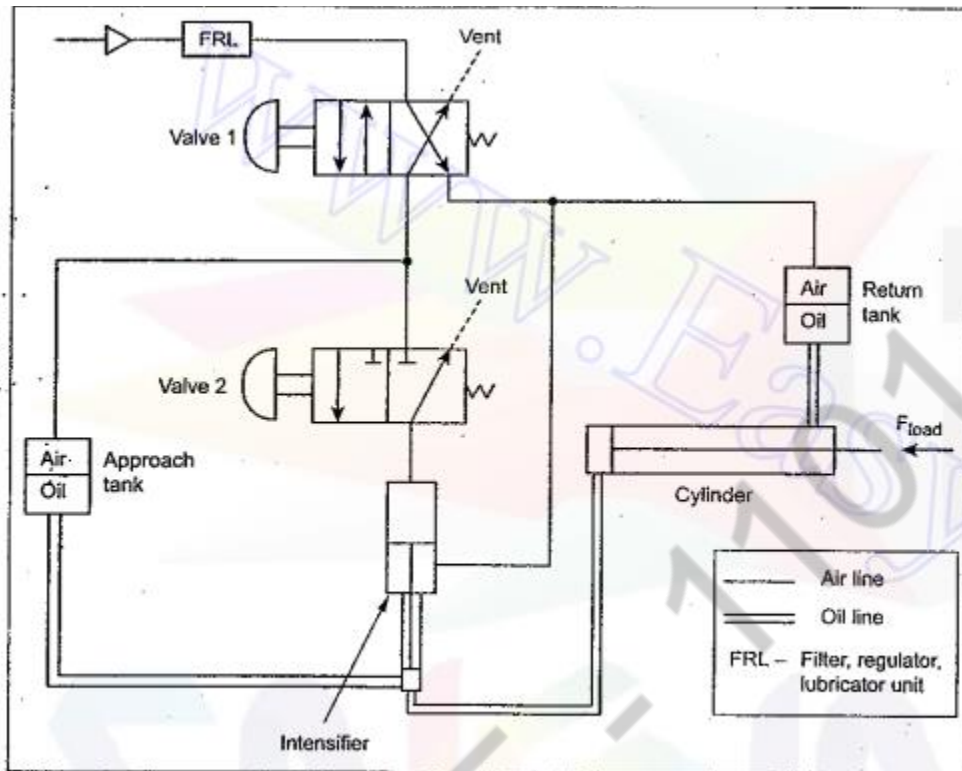

Fig. 8.18. Air-over-oil intensifier circuit
Fig.8.18 shows a typical air-over-oil intensifier. This circuit can be used for drawing a cylinder over a large distance at a low pressure and then over a small distance at high pressure (such as in punch press applications). This circuit consists two lines—air lines and oil lines. In the circuit, the air lines are shown by single lines and oil lines by double lines.
**Extension :** When the first 4/2 DC valve (valve 1) is shifted to left mode, the air from the reservoir flows to the approach tank. In the approach tank, the air forces the oil to the blind end of the cylinder through the bottom of the intensifier, as shown by double lines in Fig.8.18. Now the cylinder extends.